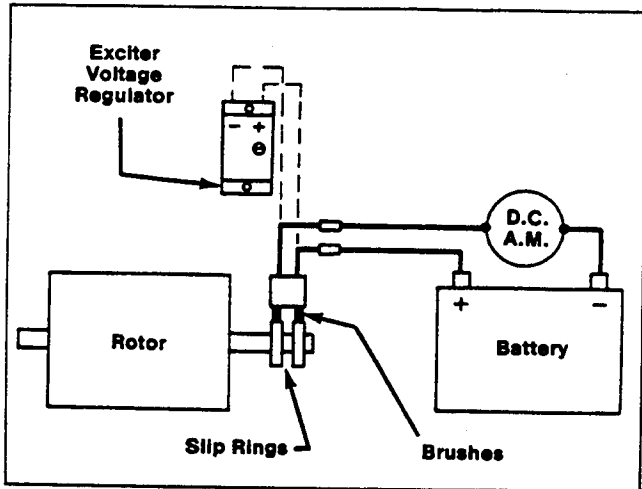

Figure 3-4. Separate Excitation Connections
2. Connect an ammeter and a 12-volt automotive battery with the positive (+) and negative (-) brush leads. Refer to Figure 3-4. Note and record ammeter reading.
2. Connect an ammeter and a 12-volt automotive battery with the positive (+) and negative (-) brush leads. Refer to Figure 3-4. Note and record the ammeter reading.